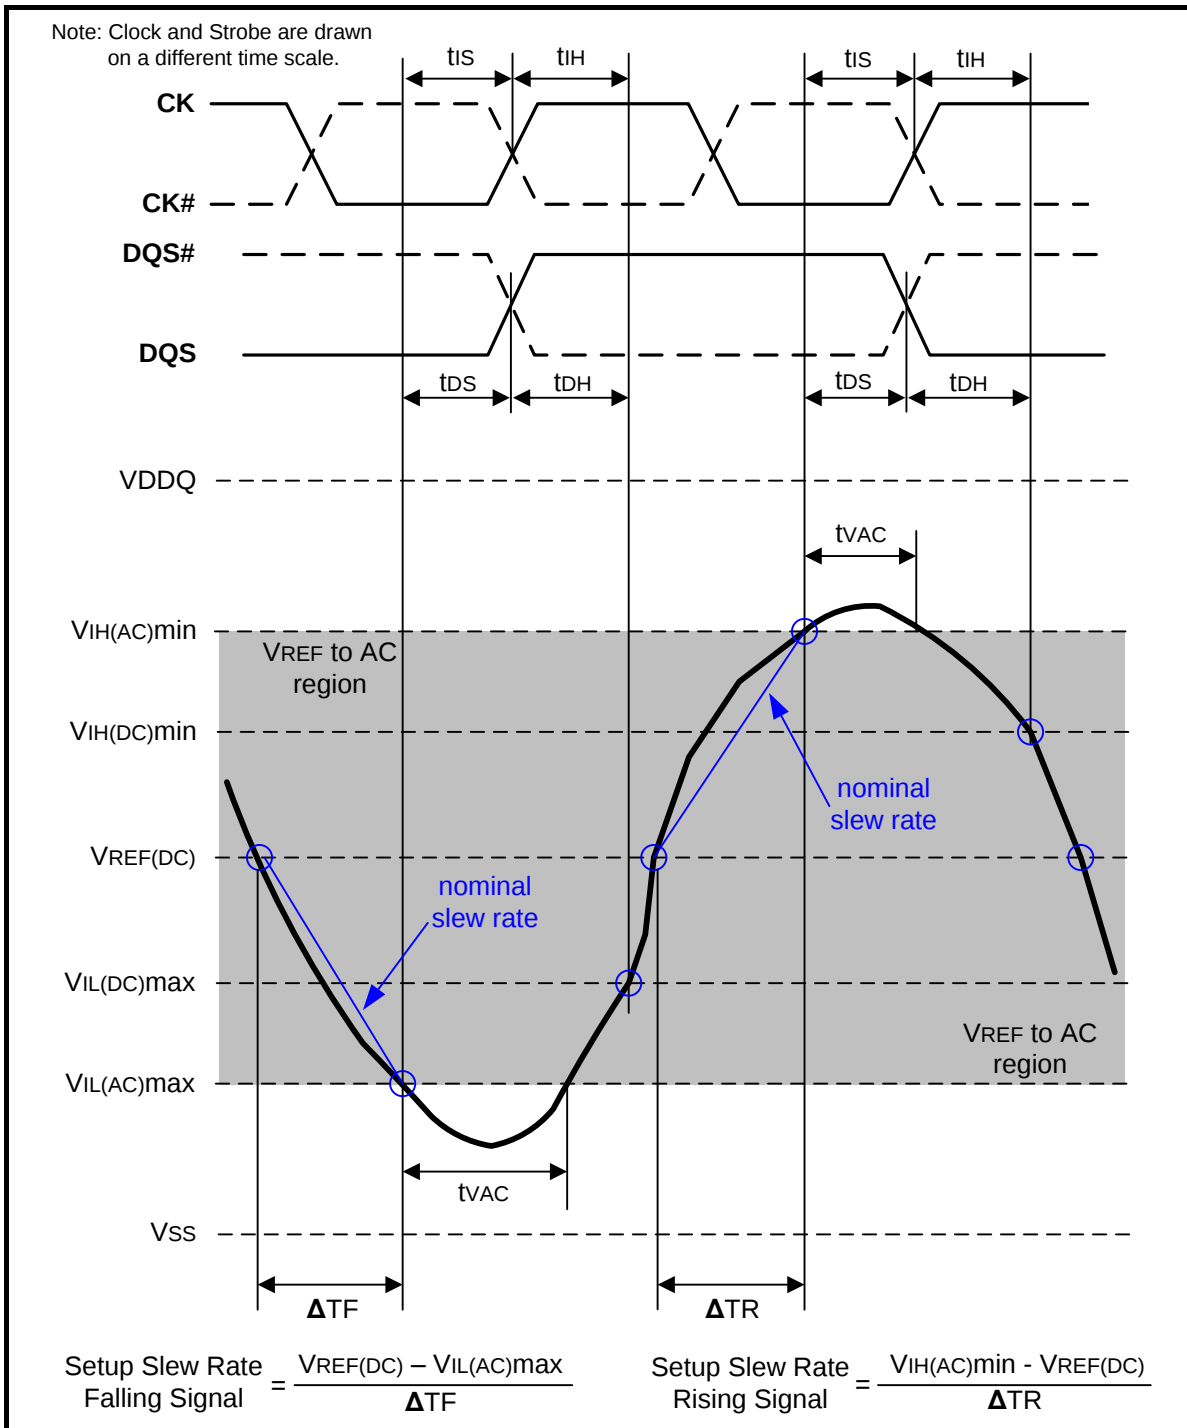
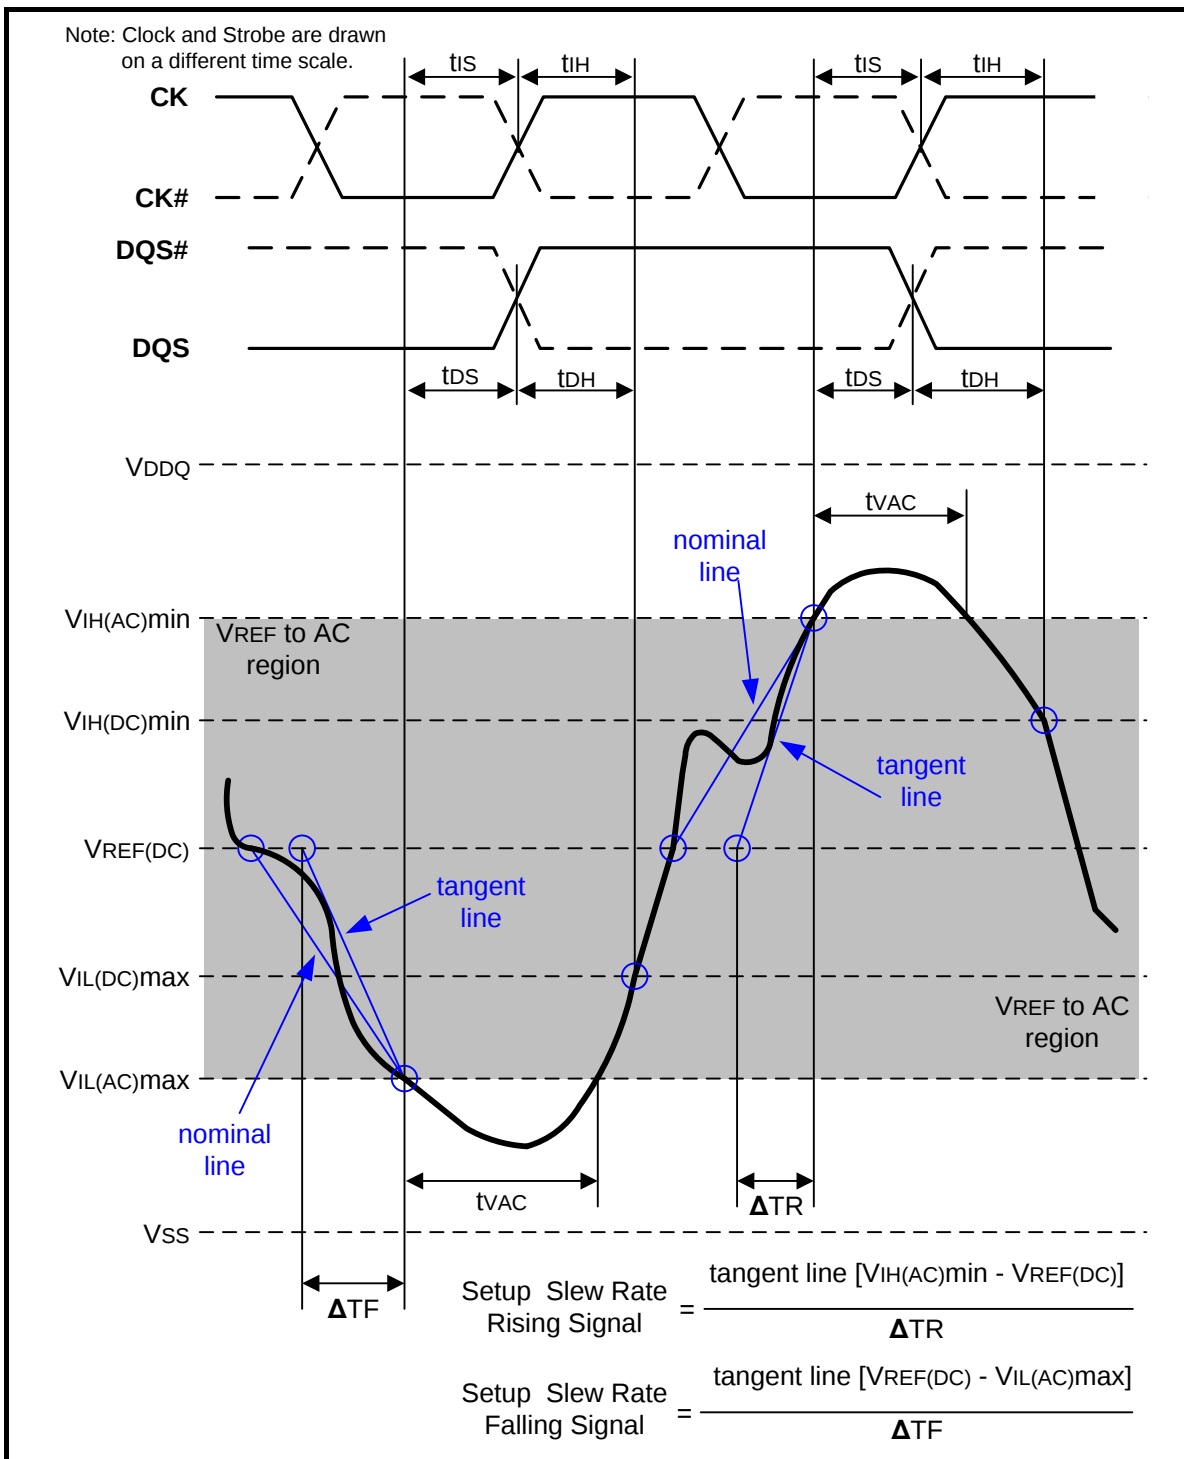

Figure 107 – Illustration of nominal slew rate and tvAC for setup time tDS (for DQ with respect to strobe) and tIS (for ADD/CMD with respect to clock)
Figure 109 – Illustration of tangent line for setup time t_{DS} (for DQ with respect to strobe) and t_{IS} (for ADD/CMD with respect to clock)
Setup (t_{IS}) nominal slew rate for a rising signal is defined as the slew rate between the last crossing of $V_{REF}(\text{DC})$ and the first crossing of $V_{IH}(\text{AC})_{\text{min}}$. Setup (t_{IS}) nominal slew rate for a falling signal is defined as the slew rate between the last crossing of $V_{REF}(\text{DC})$ and the first crossing of $V_{IL}(\text{AC})_{\text{max}}$. If the actual signal is always earlier than the nominal slew rate line between shaded 'VREF(DC) to AC region', use nominal slew rate for derating value (see Figure 107). If the actual signal is later than the nominal slew rate line anywhere between shaded 'VREF(DC) to AC region', the slew rate of a tangent line to the actual signal from the AC level to $V_{REF}(\text{DC})$ level is used for derating value (see Figure 109).
Setup (t_{DS}) nominal slew rate for a rising signal is defined as the slew rate between the last crossing of $V_{REF}(\text{DC})$ and the first crossing of $V_{IH}(\text{AC})_{\text{min}}$. Setup (t_{DS}) nominal slew rate for a falling signal is defined as the slew rate between the last crossing of $V_{REF}(\text{DC})$ and the first crossing of $V_{IL}(\text{AC})_{\text{max}}$ (see Figure 107). If the actual signal is always earlier than the nominal slew rate line between shaded 'VREF(DC) to AC region', use nominal slew rate for derating value. If the actual signal is later than the nominal slew rate line anywhere between shaded 'VREF(DC) to AC region', the slew rate of a tangent line to the actual signal from the AC level to $V_{REF}(\text{DC})$ level is used for derating value (see Figure 109).